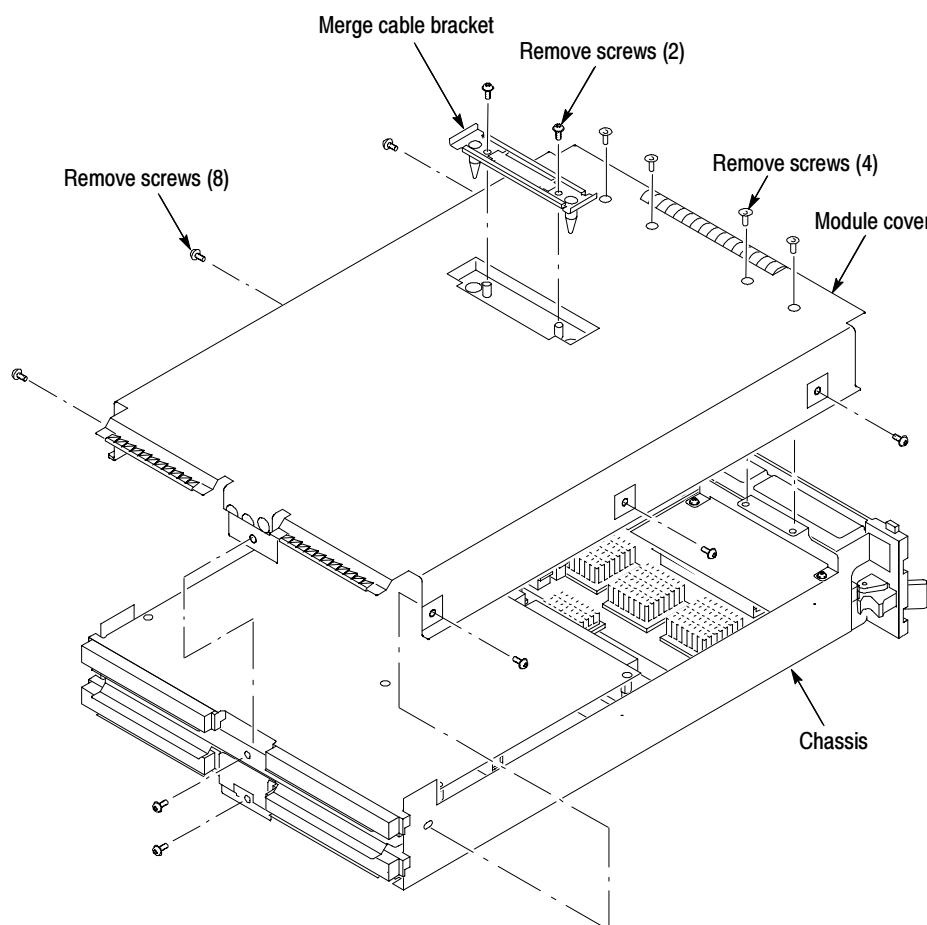

**Figure E-5: Removing the cover**
4. Remove the screws from the module cover with a screwdriver with a T-10 Torx tip; refer to Figure E-5 on page E-9.